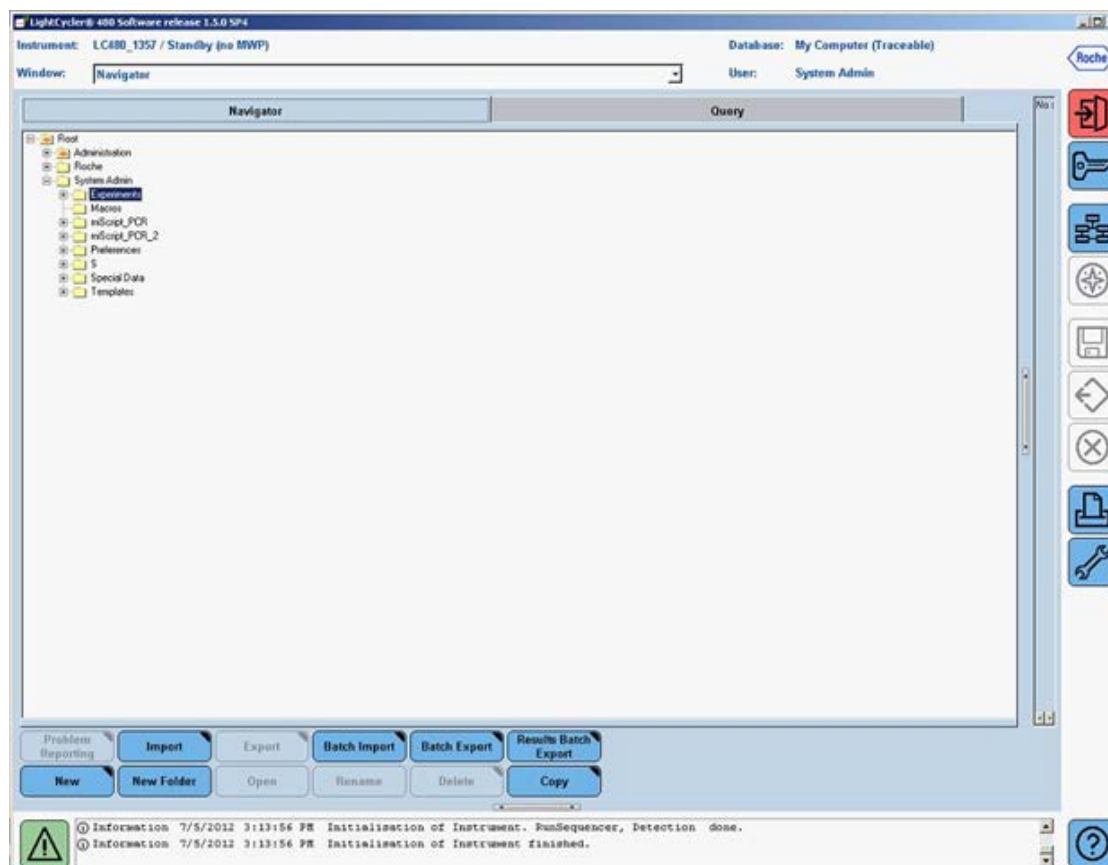

Figure 7. Opening a completed run file.
1. In the "Navigator" window (Figure 7), find and open the run file to be analyzed.